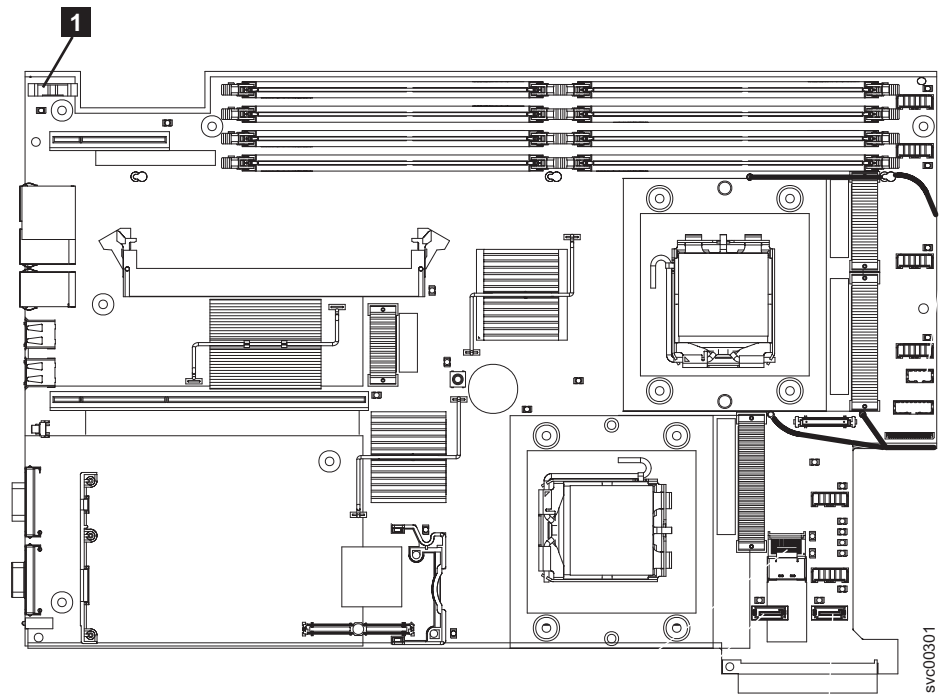

Figure 108. Location of the SAN Volume Controller 2145-8G4 CMOS battery holder
4. Locate the battery **1** on the system board. Figure 108 shows the location of the battery.